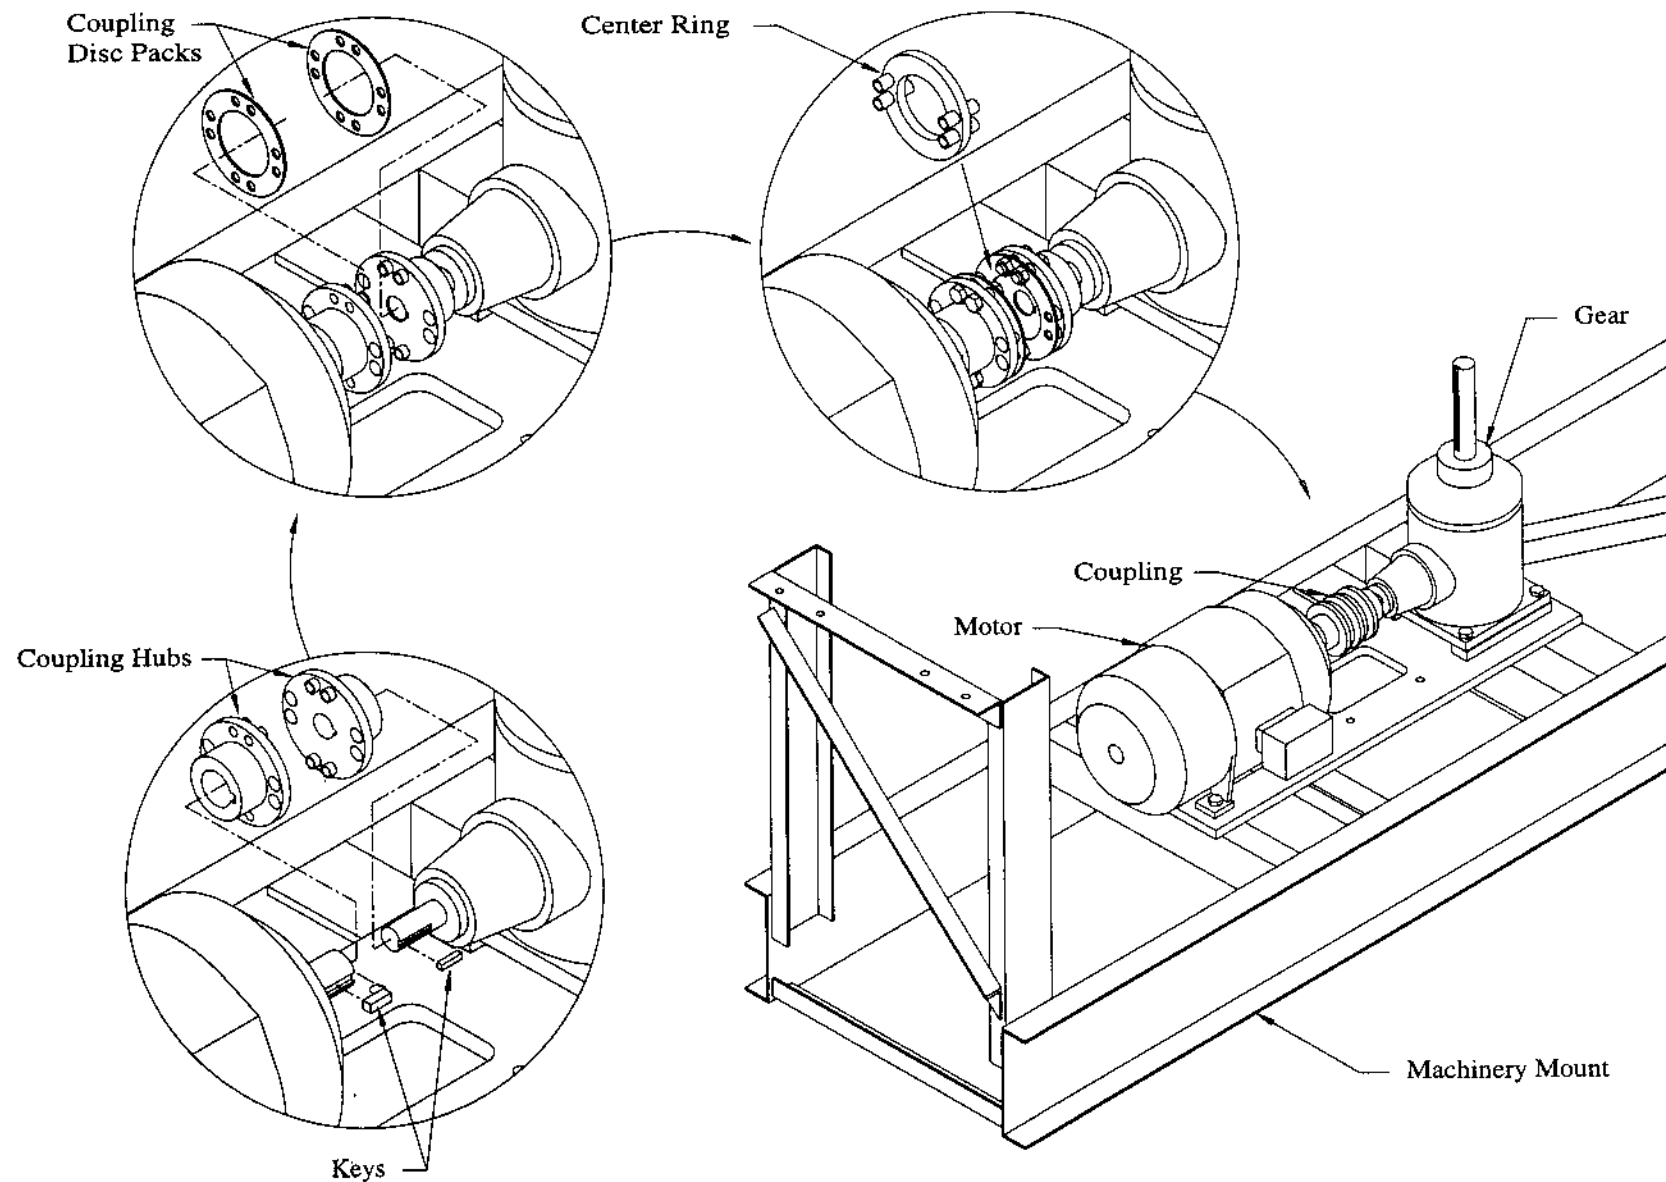

FIG. C2 - COUPLING
3. Attach motor coupling, with keys, and align shafts per coupling brochure. See Fig. C2.